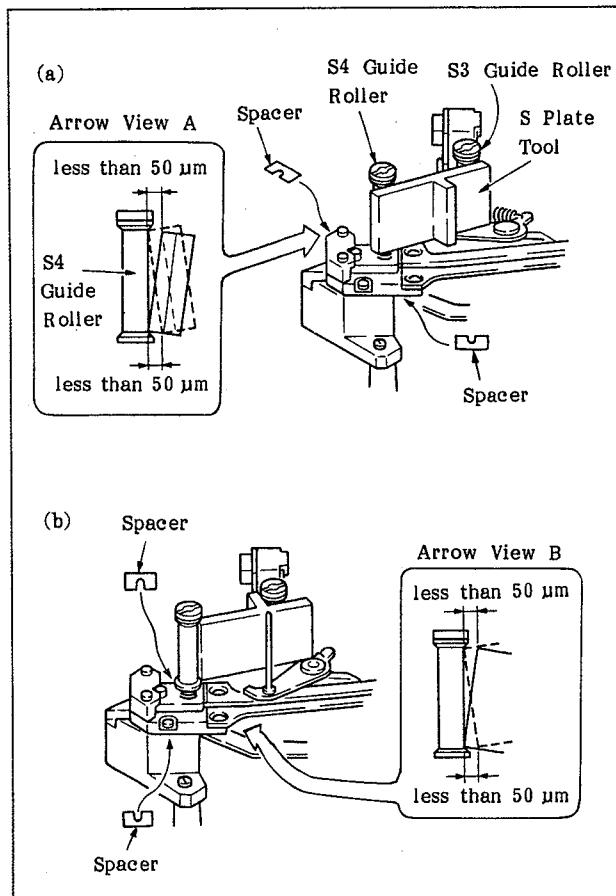

Fig. 6-51 Adjustment of the Inclination of the S4 Guide Roller
8. Push the S plate tool so that it fits tightly with the S3 guide roller as shown in Figure 6-51(a).
9. In a similar manner, check that the clearance between the S4 guide roller and the S plate tool is less than 50 μm when the S plate tool fits tightly with the S3 guide roller as shown in Figure 6-51 (b). If it is not satisfied, adjust it by inserting a spacer as shown in the figure.